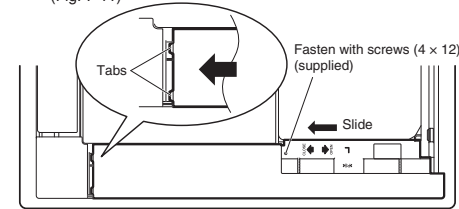

Fig. 7-11
- (1) Slide the side panel in the direction of the arrow to install it. (Fig. 7-11)